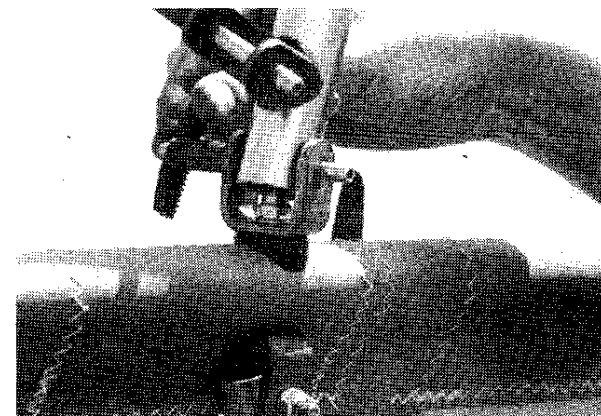

Figure 2.31
37. Attach right and left tail boom tubes to tail boom channels using (2) 1/4" dia. T-handle pins, and safety rings. **Figure 2.31**